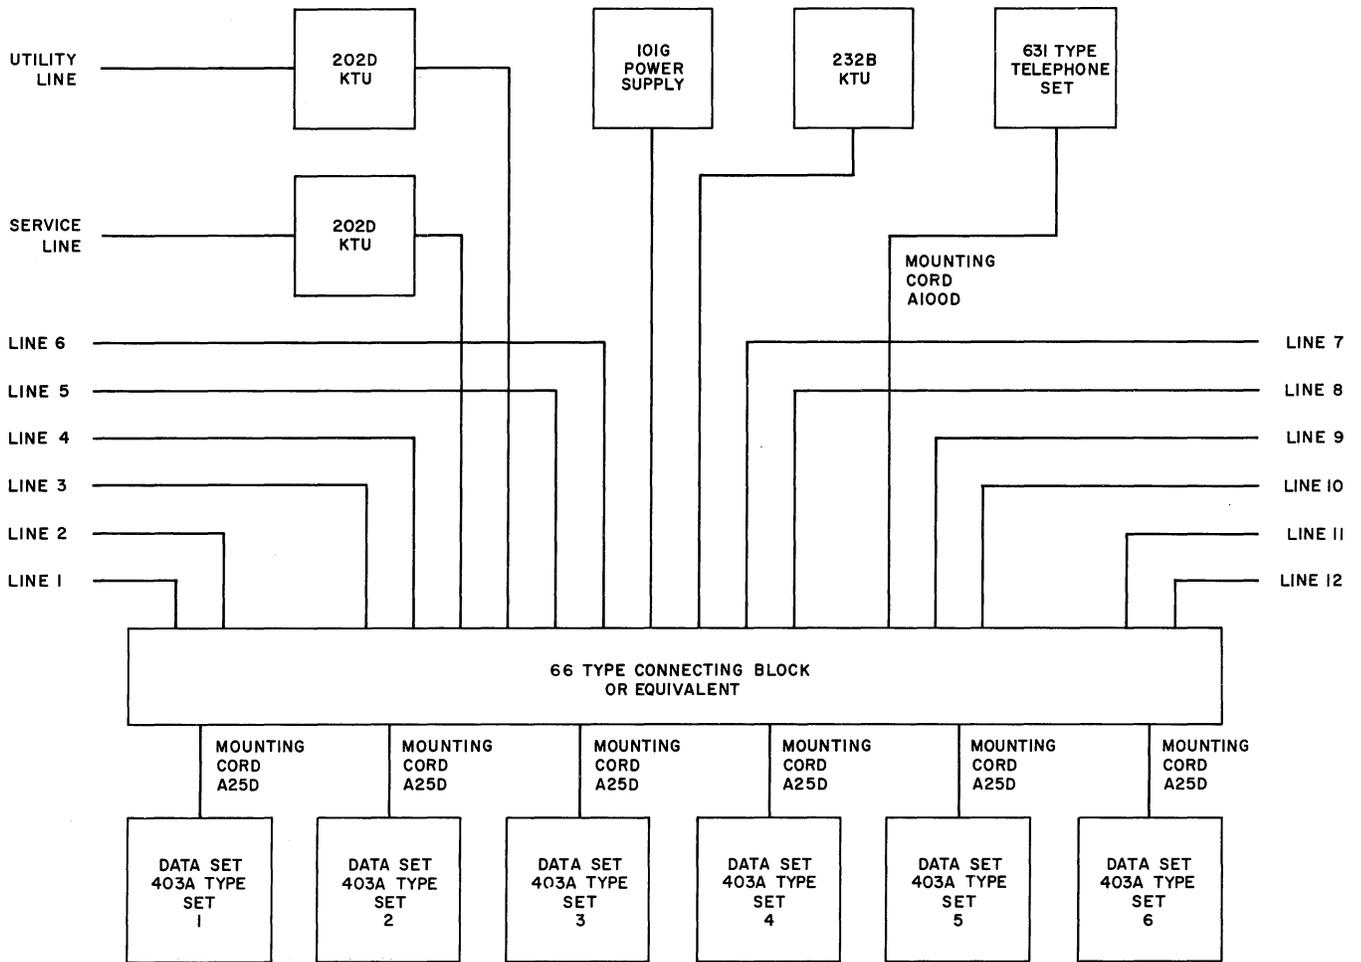

Fig. 7 — Block Diagram of a Data Installation Using a Single 30-Button 631-Type Telephone Set For Intercept and Maintenance For 12 Data Lines
3.13 Fig. 7 illustrates a data station using six data sets (12 receivers) in conjunction with one-631-type telephone set for intercept and maintenance of 12 data lines. Table G illustrates the type of connections necessary for this type of installation.